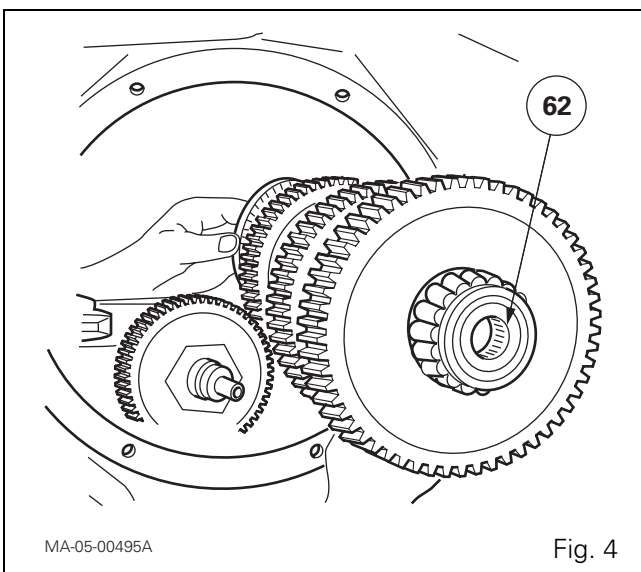

Fig. 4
7. Take the shaft and gear assembly out through the front of the housing (Fig. 4), by tilting it so that the gears are released from the lower shafts.
IMPORTANT: When removing the shaft, do not insert the handling bar in the bore as this will damage the needle roller bearing (62) (Fig. 4). If necessary, carry out the operation with the help of an assistant.